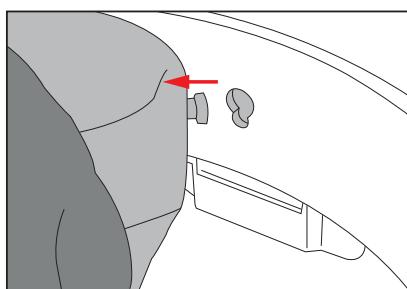

Figure 6.1
- Starting with the front of the seat, lift up on a post and pull out. See Figure 6.1.